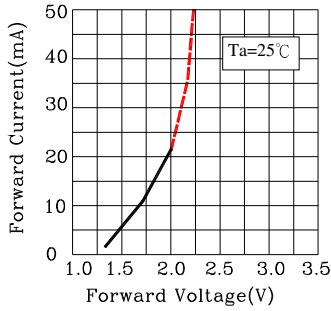

Fig.1 Forward Current vs. Forward Voltage
**● Typical Electro-Optical Characteristics Curves****Fig.1 Relative Intensity vs. Wavelength**